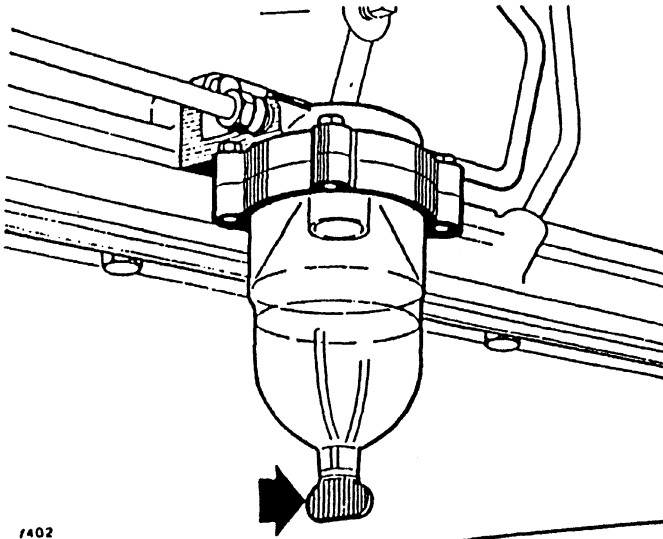

Fig 6 Fuel sedimentor
12. The fuel sedimentor (Fig 6) is located towards the rear on the lower right-hand side of the engine crankcase.